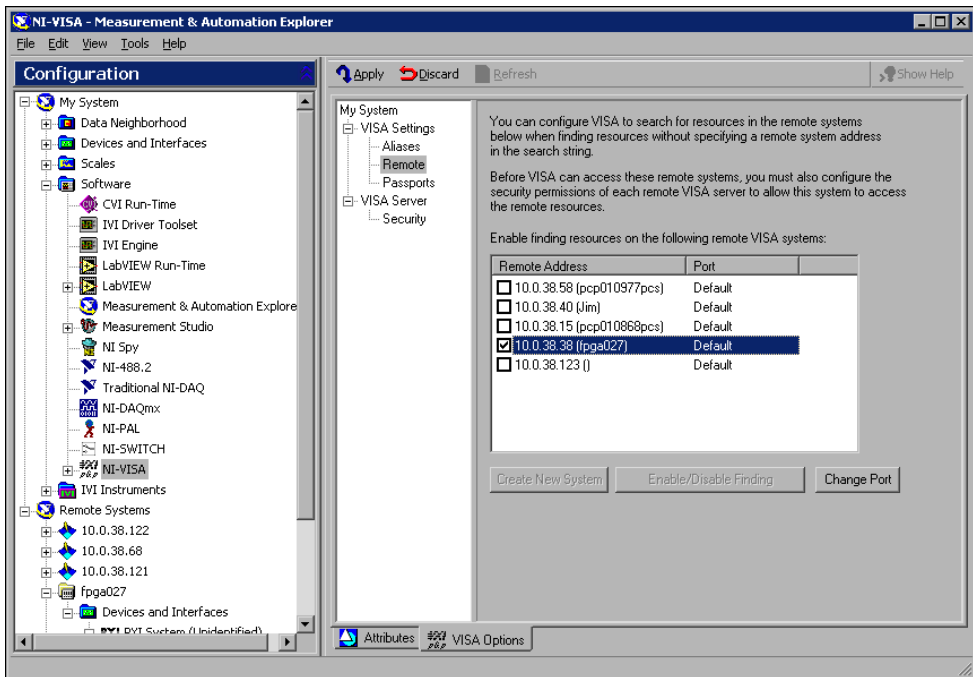

Figure 3. Enabling Remote Finding on Specific Remote Systems
1. If you are currently configuring access permissions for a remote system, click the **VISA Options >> Remote** button, as shown in Figure 2, to open the **VISA Options** page for the local VISA settings. Otherwise, select **Tools>>NI-VISA>VISA Options** to open the **VISA Options** page and select **VISA Settings>>Remote**, as shown in Figure 3.